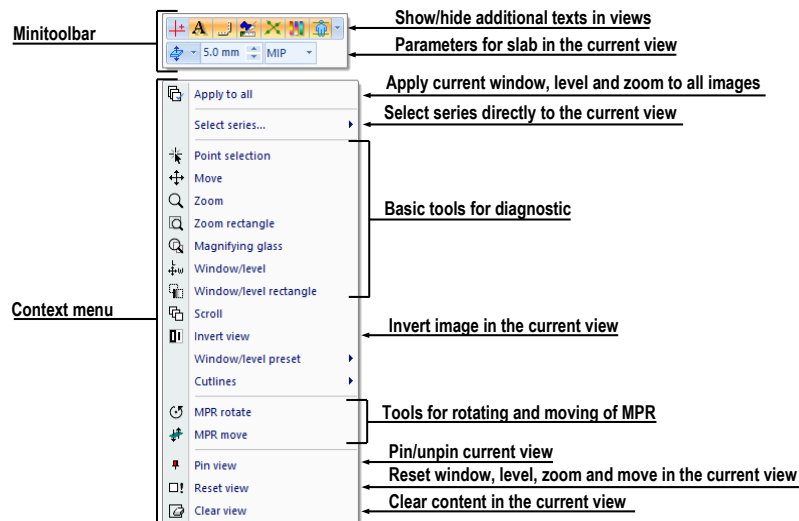

Figure 15 – View context menu with mini-toolbar
2. Select the command or tool from the context menu (see Figure 15).